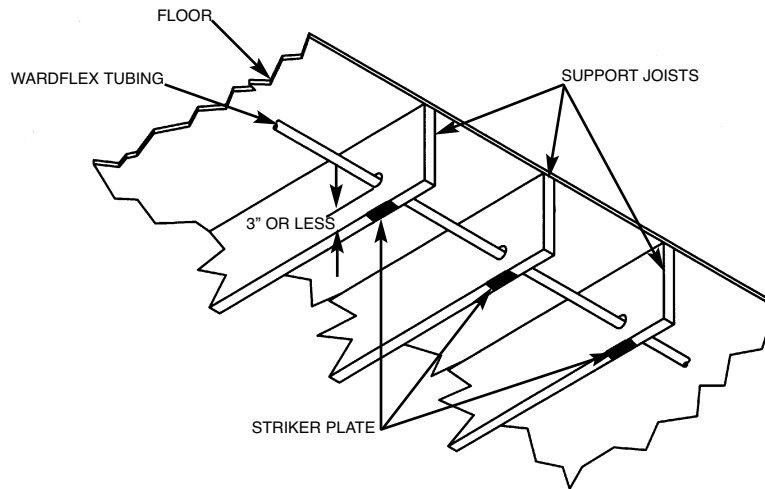
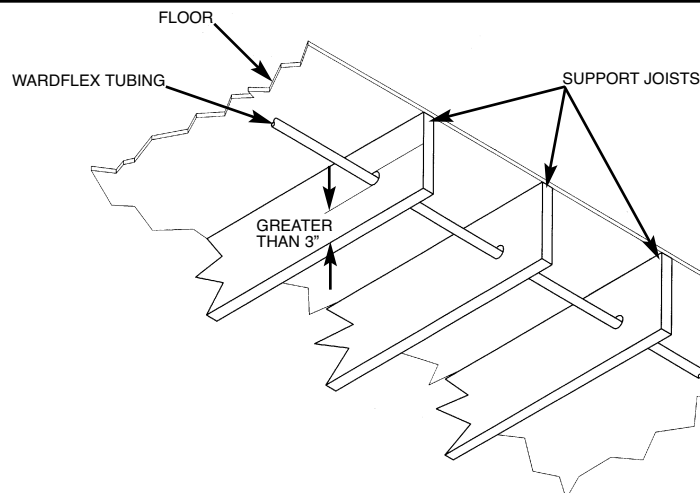

Figure 4.6
Figure 4.8
- Where a hole is to be drilled in a joist, the outside edge of the hole should be located not less than 3 in. away from the floor or ceiling. See Figure 4.8. Where practical tubing runs should be located near a support beam or supporting wall.
Note: Should the basement ceiling be covered at a later date, the quarter striker plates (shown) should be replaced with full striker plates. Although Figures 4.6 and 4.7 are acceptable methods, Figure 4.8 is a preferred method of installation. This is included to cover installations such as finishing a basement where tubing needs to be moved up into joists.
Shielding shall be installed when the tubing runs within 3 in. of a nailing surface such as the edge of a joist, stud, plate, etc. (Figures 4.6, 4.7, 4.9 & 4.10)